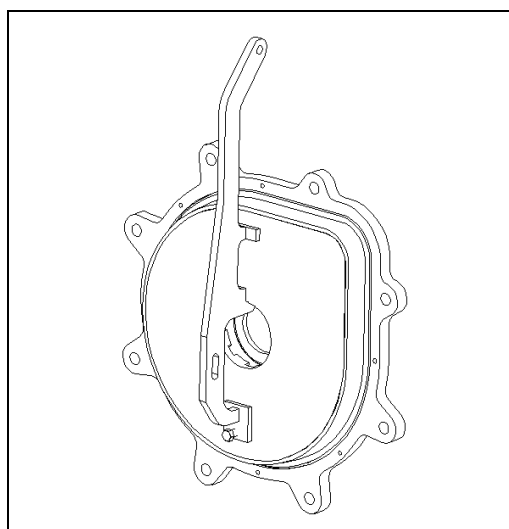

Figure 5-5
- a. Attach the FRAME PLATE LINER INSERT LIFTING BEAM (302) to the frame plate liner insert. Lift the gland assembly using the hoist. (Refer to *Figure 5-5*.)